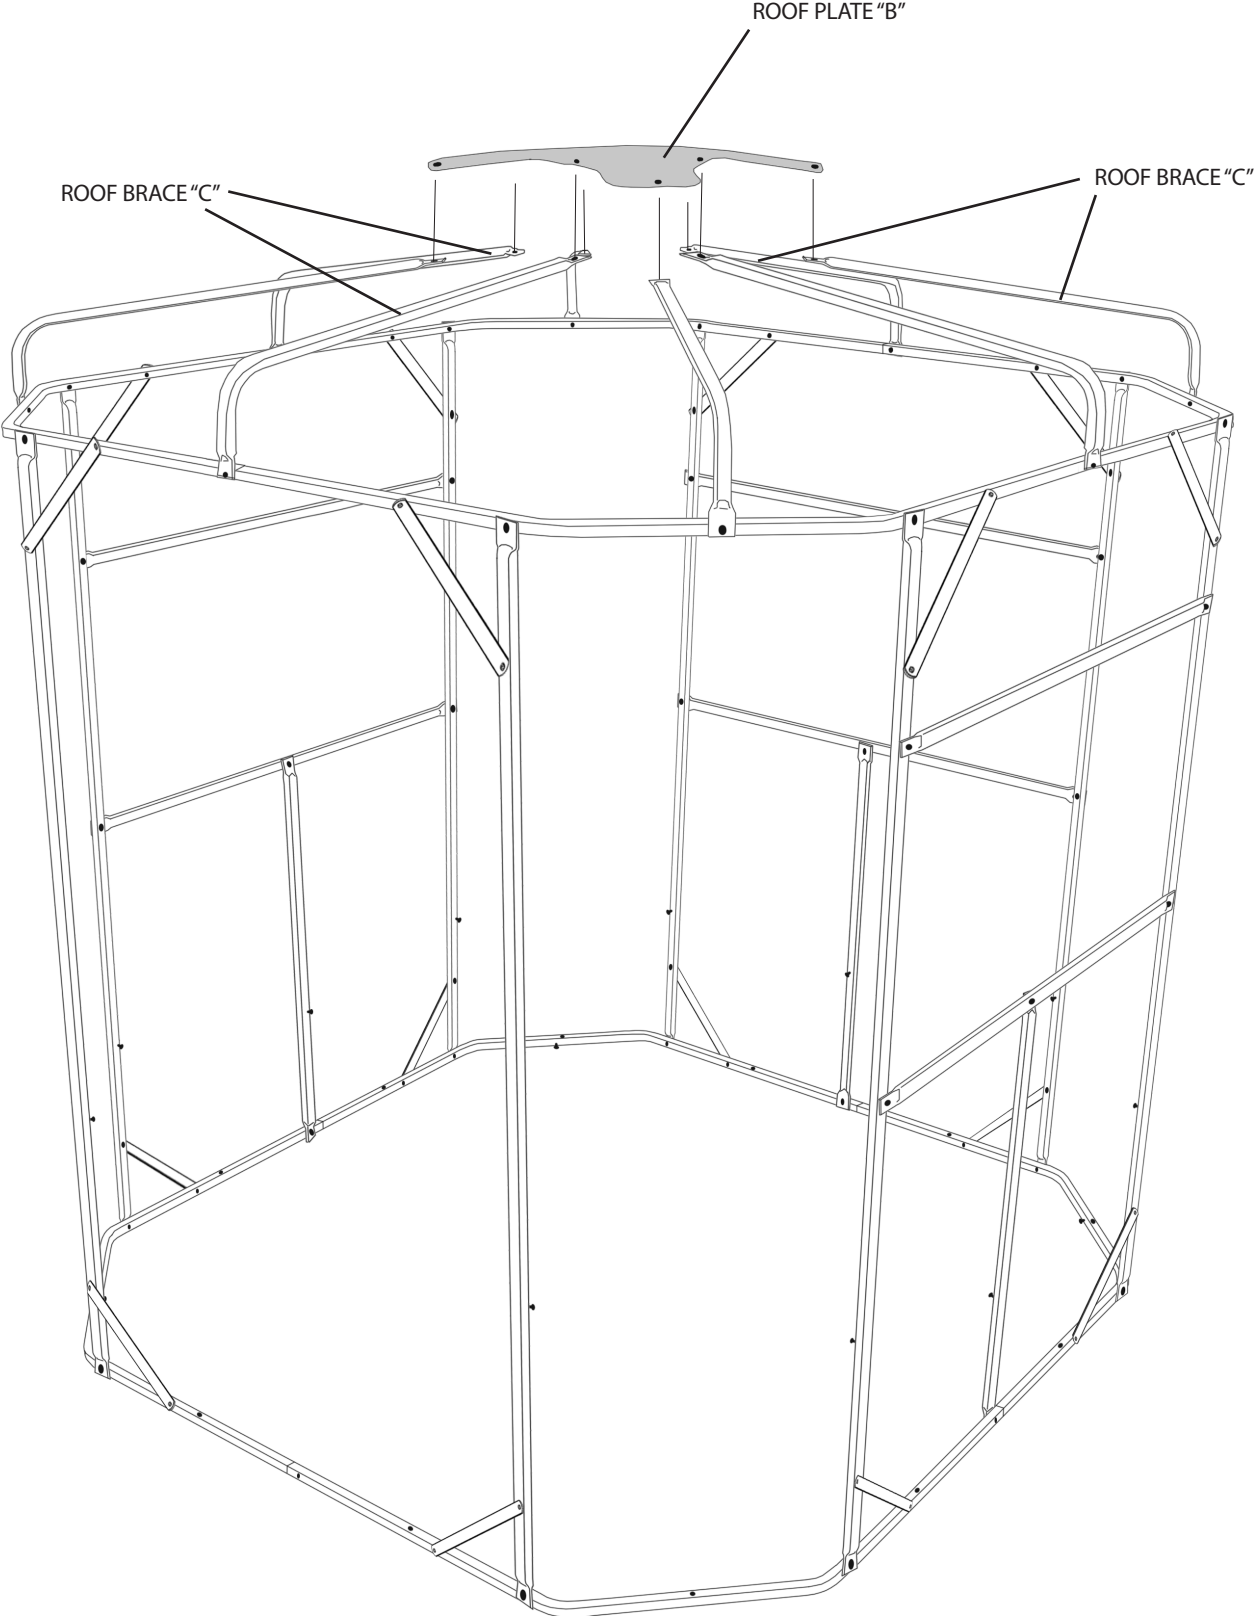

Figure 20.1
STEP 12: Locate the (1) ROOF PLATE "B". Using (16) 3/4" BOLTS & (16) NUTS attach the (1) ROOF PLATE "B" to the (8) ROOF BRACES "C", as illustrated in Figure 20.1.
NOTE: The ROOF PLATE "B" will be fastened to the top of the (8) ROOF BRACES "C", on what would be the exterior of the blind, as illustrated in Figure 20.1.